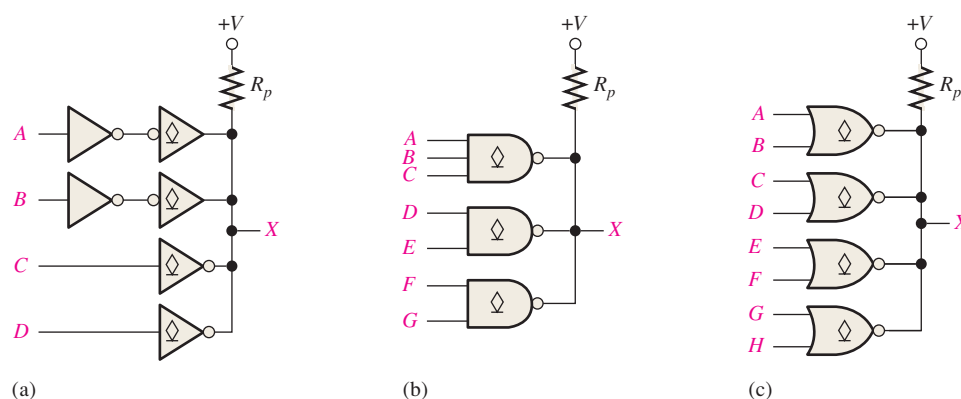

FIGURE 15-60
23. Determine the minimum value for the pull-up resistor in each circuit in Figure 15-60 if $I_{OL(max)} = 40$ mA and $V_{OL(max)} = 0.25$ V for each gate. Assume that 10 standard TTL unit loads are being driven from output X and the supply voltage is 5 V.